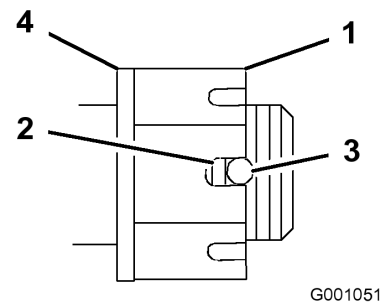

Figure 44
4. Torque the slotted nut to 125 ft-lb (170 N•m) (Figure 44).
5. Check the distance from bottom of slot in nut to inside edge of hole. Two threads or less should be showing (Figure 44).
7. Torque the slotted nut to 125 ft-lb. (170 N•m) (Figure 44).
8. Tighten the nut until the next set of slots line up with the hole in the shaft (Figure 44).